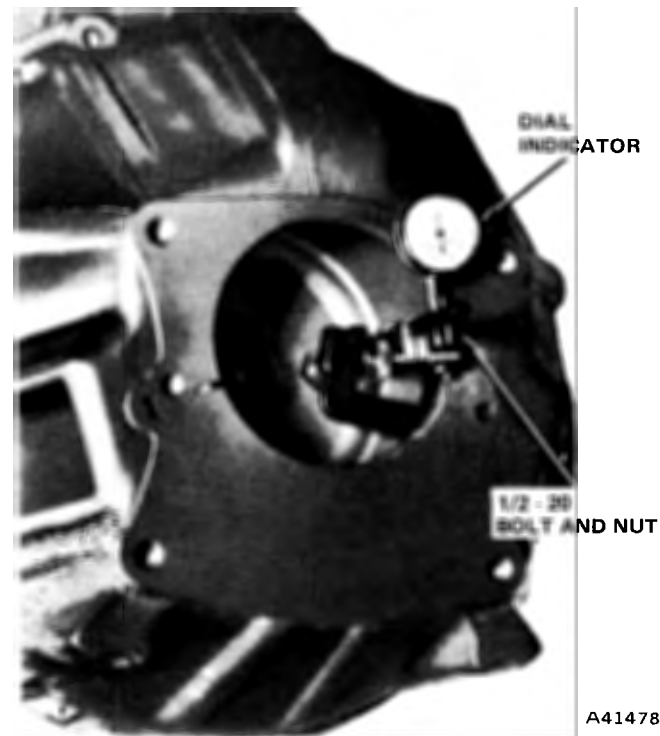

Fig. 5-4 Mounting Dial Indicator
- (1) Remove transmission as outlined in Section 6—Manual Transmission.
- (2) Remove clutch housing and clutch assembly.
- (3) Remove one flywheel attaching bolt.
- (4) Use nine-inch long 1/2-20 bolt and nut for dial indicator support.
- (5) Install nut on bolt so that 10 or 12 threads are exposed and thread bolt into crankshaft.
- (6) Tighten nut to secure bolt.
- (7) Install clutch housing on engine and tighten attaching bolts to specified torque. (Refer to Torque Specifications.)
- (8) Mount dial indicator on long bolt. Indicator stylus should contact rear face of clutch housing approximately 1/8 inch from edge of rear opening (fig. 5-4).
- (9) Check face runout of housing by turning crankshaft.
- (10) Face runout should not exceed 0.010 inch at any point through 360 degrees of rotation.